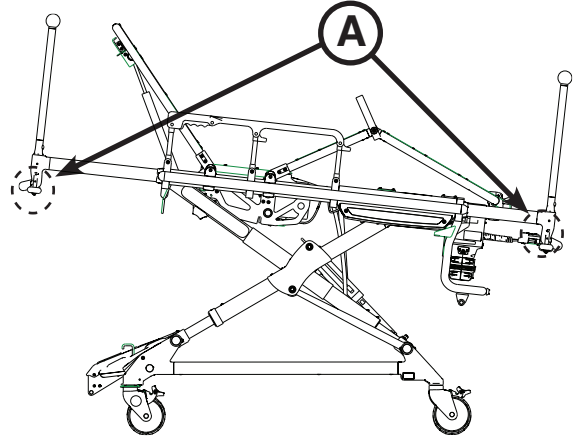

Figure 24.1: Head and Foot Section Extended
1. Squeeze the red release levers (A) on each side of the frame as you pull the head or foot section out of its retracted position as shown in Figure 24.1.